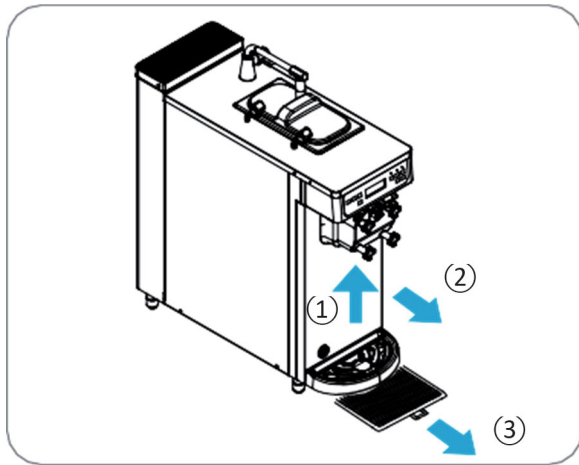

Figure 5-42
The filter is located at the bottom front of the unit, below the drip tray. (See item 3 in Figure 5-42.) Lift and remove the drip tray and splash guard, then gently pull out the filter.